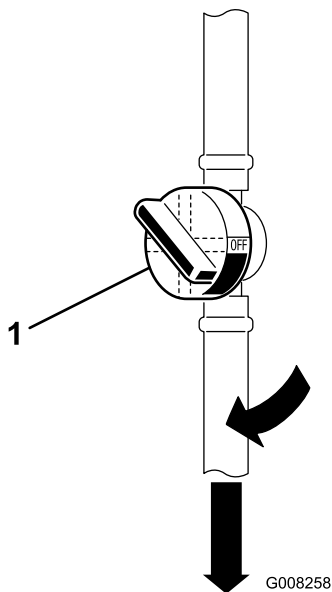

Figure 11
1. Open the fuel shut-off valve located between the fuel tank and the engine (Figure 11).